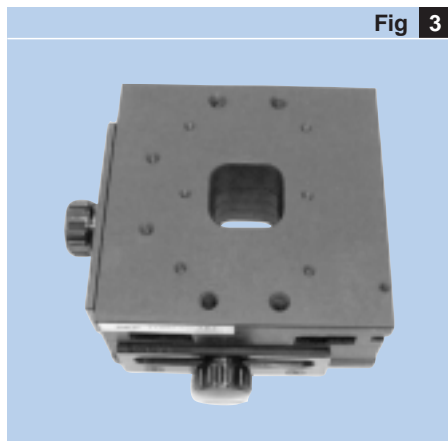

Fig 3
- Compact cross tables (→ fig 3);